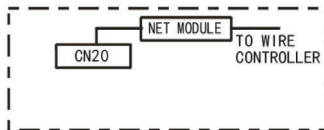

Fig. 25 — Net Module
2. Connect the wired control with the net module (see Fig. 25).